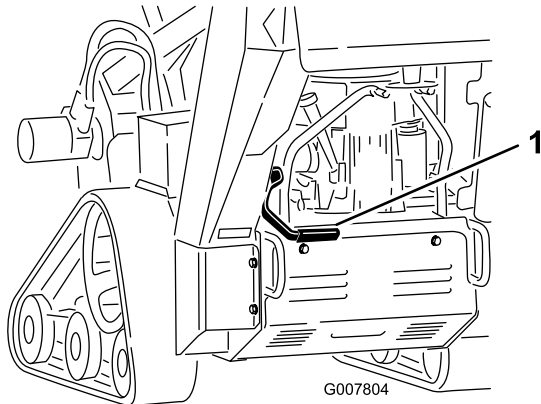

Figure 14
- To set the parking brake, pull the brake lever rearward and up (Figure 14).
- To release the brake, pull the lever rearward and then down (Figure 14).